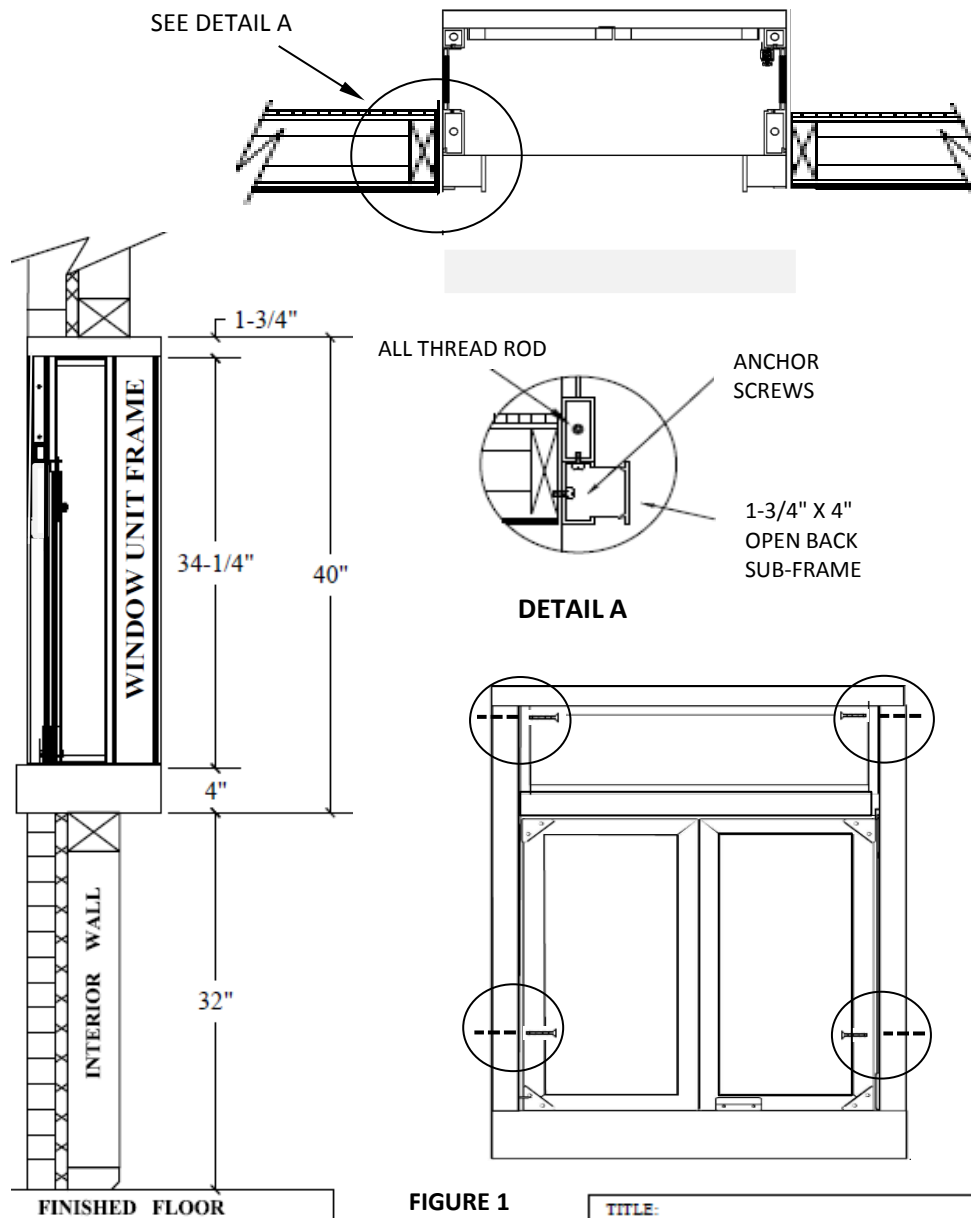

FIGURE 1
- 4) If not using sub-frame, use caution when drilling thru each side jamb as all thread rods are located in each side jambs. (See Figure 1)